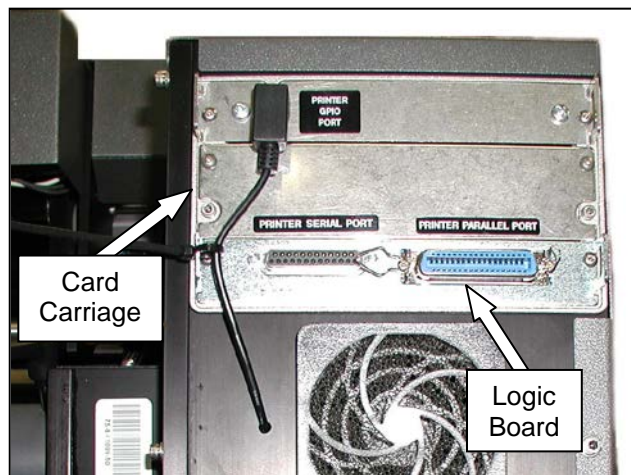

Figure 3-117. Printer Performance Logic Board and Card Carriage Locations.
1. Snip the cable tie holding the GPIO cable to the Printer Performance Logic Board (Figure 3-117).